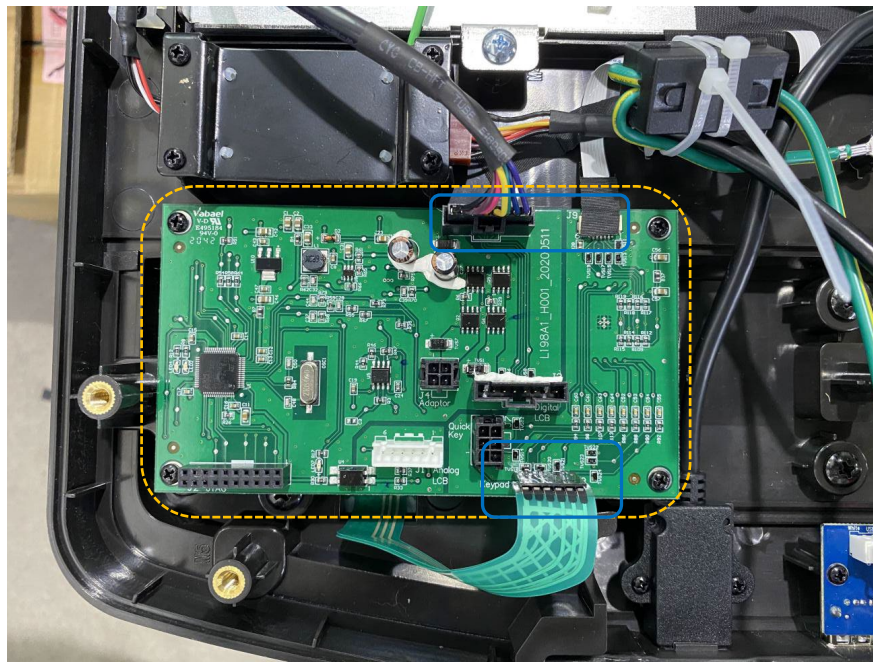

Figure 1
2. Remove the wires on the exchange board. Remove any tape as needed (Fig. 1 blue box).